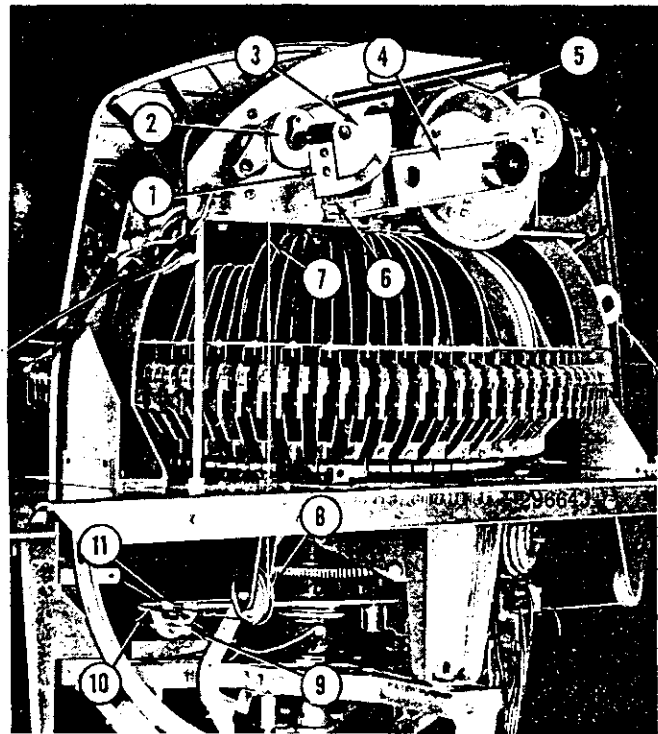
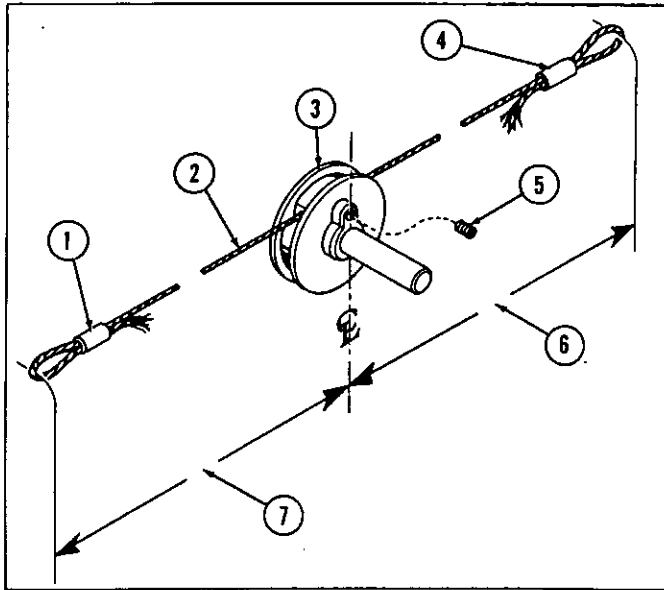

Fig. 95. ADJUSTMENT, ACTUATING ARM AND CABLE TONE ARM AND TURNTABLE.
Fig. 96. TURNTABLE CABLE AND DRIVE PULLEY
(1) Loosen the two allen head screws (Item 1) and set the position of the motor and mounting bracket assembly to provide a minimum of back lash consistent with freedom of operation.
(2) After tightening the two mounting screws, check the adjustment by operation in the searching phase of operation.
z. Actuating Arm and Cable, Tone Arm and Turntable. (Fig. 95 and 96)
The cable that operates both the tone arm and the turntable should be set to operate the turntable cam (Item 3, Fig. 95) through an arc of about 90° when the main cam moves from the "at rest" position to the play position. For installation of a new cable or re-adjustment of the turntable actuating linkage, proceed as follows:
(1) Pass the cable through the hole in the drive pulley (Item 2, Fig. 95) and form loops on the cable ends in accordance with measurements shown in Fig. 96.
(2) Using the set screw (Item 5, Fig. 96) lock the cable firmly in the pulley in accordance with the measurements (Items 6 and 7, Fig. 96).
(3) Take out the two screws and remove the stop plate (Item 1, Fig. 95).
(4) Rotate the turntable cam counter-clockwise to obtain enough slack in the cable to allow hooking the loop of the cable over the slide pin (Item 11, Fig. 95). The cable should be dressed around the guide pulley as shown in Fig. 95.
(5) The short end of the cable will be wound once around the drive pulley and the loop of the cable hooked to the tension spring (Item 5, Fig. 95) as shown.
(6) Place the roller of the turntable release lever back of the cam as shown at Item 6, Figure 95, and rotate the turntable cam back in a clockwise direction. Re-install and fasten the stop plate (Item 1).
(7) Turn the adjusting screw (Item 9, Fig. 95) to take up on the cable and position the turntable cam so that the roller of the turntable release lever is well onto the flat portion of the turntable cam.